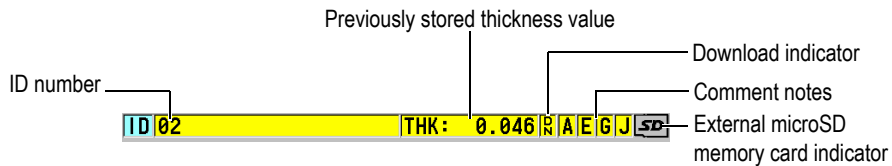

Figure 3-2 The ID bar
The ID bar, located at the top of the measurement screen, contains the ID for the actual thickness measurement location, the previously stored value, and comment notes indicators (see Figure 3-2 on page 46). The download indicator (R) appears when the previously stored thickness measurement comes from a file rather than from a newly acquired value.